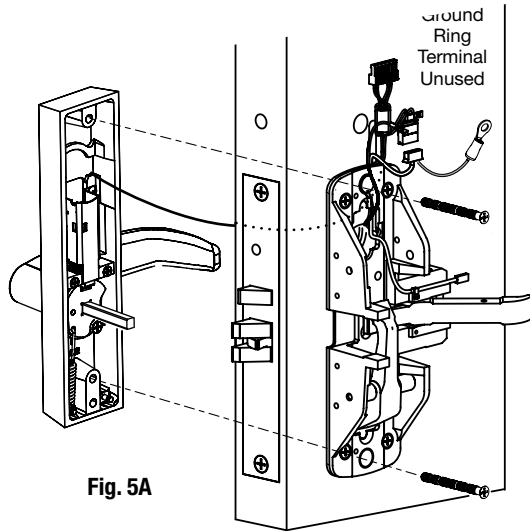

Fig. 5A
1. Route ET harness through wire run channel for wood doors (Fig. 5A) and through access hole for metal doors (not shown).